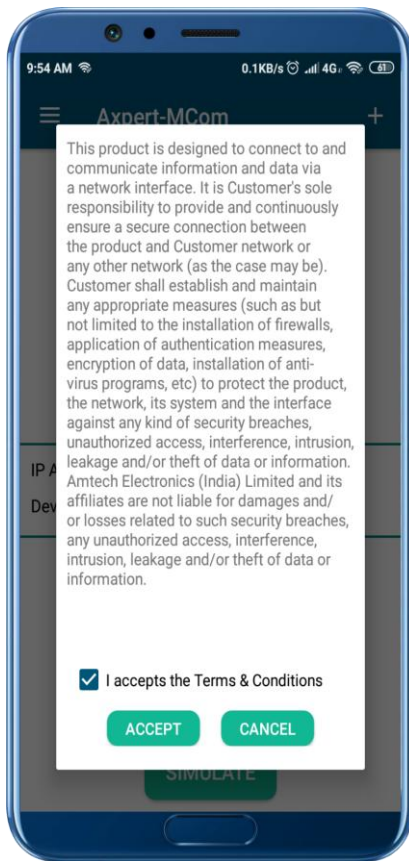

Figure 4: Terms and Condition Page of Application
- When launching the application for the first time, the application asks for Terms and Conditions that the user need to accept before using this application (Figure 4). Only after accepting the condition, the user can use the application.